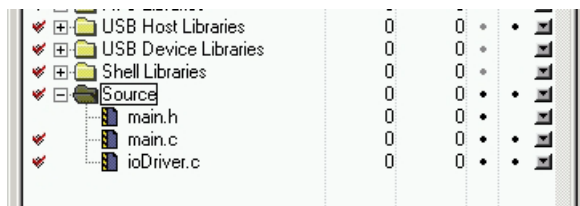

Figure 3. Adding ioDriver.c File to Project Directory Structure
- In the project directory structure, search for the ‘Source’ folder. Right click and select “Add Files” and add the ‘`ioDriver.c`.’ When prompted with a pop up for “Add files to targets,” use the default of all targets and click OK. After adding the file, the directory structure must look like Figure 3.